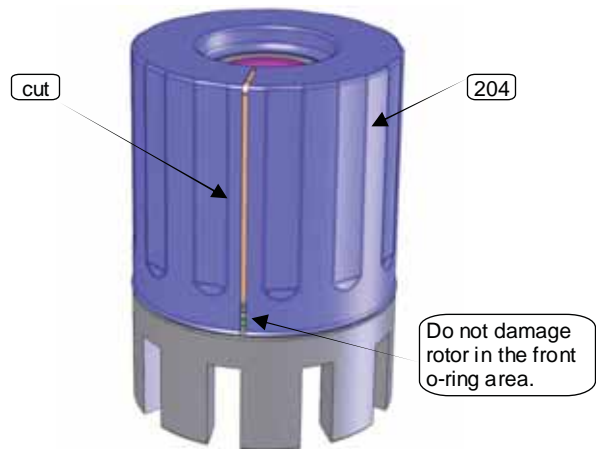

Figure 6.24 – method b
- b. Carefully cut the sleeve as shown in Figure 6.24. Be careful to avoid damaging the rotor in the area around the front o-ring. The sleeve will easily pull off the rotor after this cut is in place.